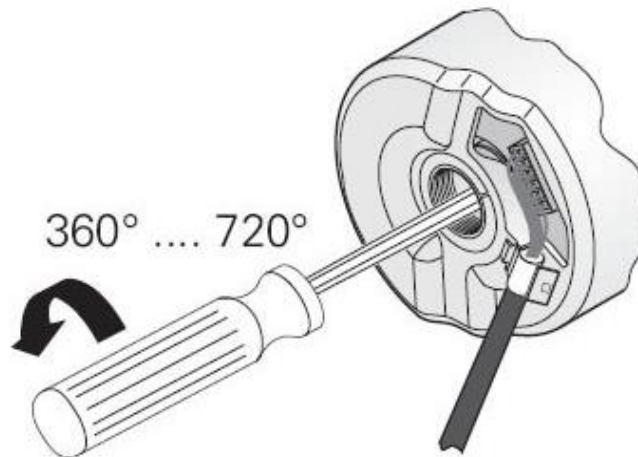

Figure 12: Loosen M5 bolt
7. Loosen the bolt M5 inside by hex wrench (4mm) 1~2 turns only. See Figure 12.